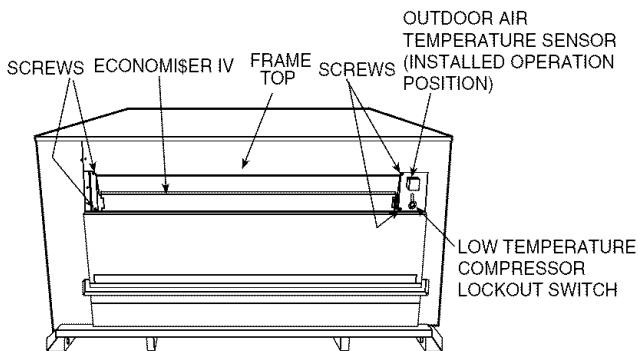
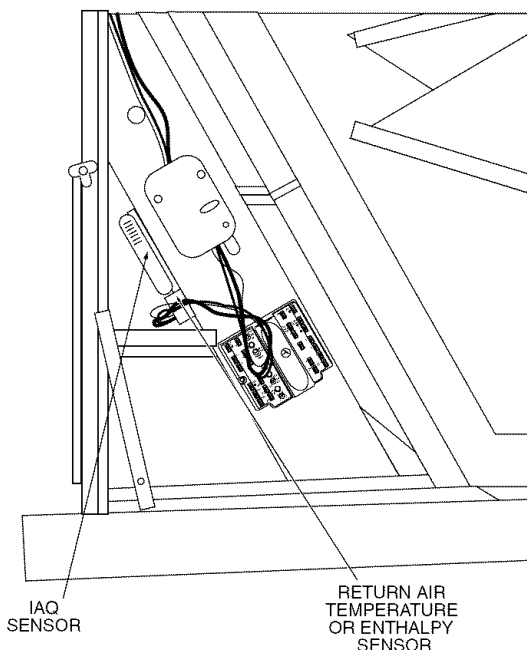
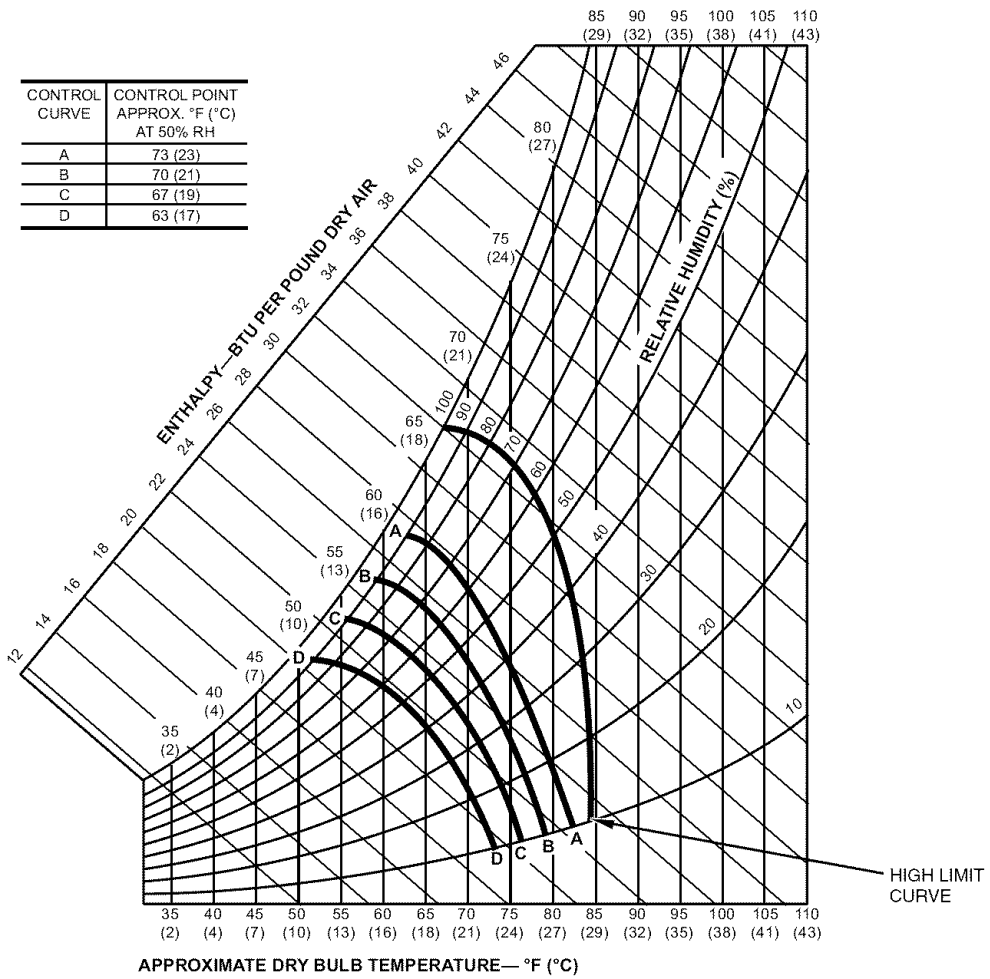

Fig. 30 — EconoMiSerIV Component Locations — End View
Fig. 37 — Return Air Temperature or Enthalpy Sensor Mounting Location
Fig. 38 — Enthalpy Changeover Set Points
OPTIONAL ECONOMISERIV AND ECONOMISER2 — See Fig. 30 and 31 for EconoMiSerIV component locations. See Fig. 32 for EconoMiSer2 component locations.
2. Relocate outdoor air temperature sensor from shipping position to operation position on EconoMiSerIV. See Fig. 30.
Outdoor Air Temperature (OAT) Sensor — The outdoor air temperature sensor (HH57AC074) is a 10 to 20 mA device used to measure the outdoor-air temperature. The outdoor-air temperature is used to determine when the EconoMiSerIV can be used for free cooling. The sensor must be field-relocated. See Fig. 30. The operating range of temperature measurement is 40 to 100 F.
Differential Dry Bulb Control — For differential dry bulb control the standard outdoor dry bulb sensor is used in conjunction with an additional accessory return air sensor (part number CRTEMPSN002A00). The accessory sensor must be mounted in the return airstream. See Fig. 37. Wiring is provided in the EconoMi\$erIV wiring harness. See Fig. 33.
Outdoor Enthalpy Changeover — For enthalpy control, accessory enthalpy sensor (part number HH57AC078) is required. Replace the standard outdoor dry bulb temperature sensor with the accessory enthalpy sensor in the same mounting location. See Fig. 30. When the outdoor air enthalpy rises above the outdoor enthalpy changeover set point, the outdoor-air damper moves to its minimum position. The outdoor enthalpy changeover set point is set with the outdoor enthalpy set point potentiometer on the EconoMi\$erIV controller. The set points are A, B, C, and D. See Fig. 38. The factory-installed 620-ohm jumper must be in place across terminals SR and SR+ on the EconoMi\$erIV controller. See Fig. 33 and 39.
Replace the standard outside air dry bulb temperature sensor with the accessory enthalpy sensor in the same mounting location. See Fig. 30. Mount the return air enthalpy sensor in the return airstream. See Fig. 37. The outdoor enthalpy changeover set point is set with the outdoor enthalpy set point potentiometer on the EconoMi\$erIV controller. When using this mode of changeover control, turn the enthalpy set point potentiometer fully clockwise to the D setting.